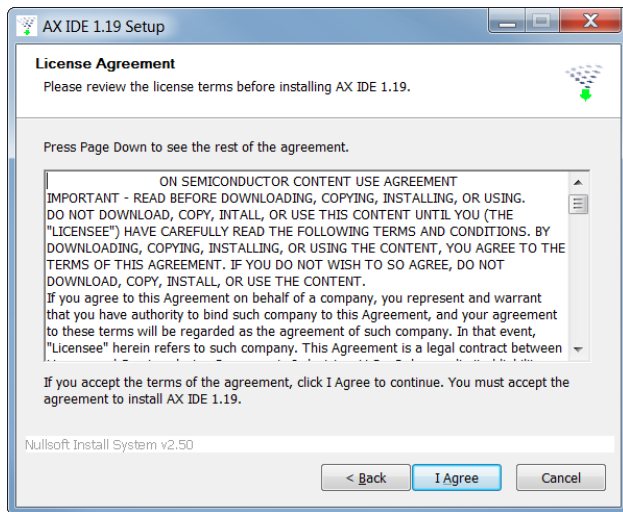

Figure 9. License Agreement
- The first time AxCode::Block starts, it scans for installed compilers and presents a list of the compilers found. Select *GNU GCC Compiler for ARM* as default, see Figure 9: GNU GCC compiler for ARM.